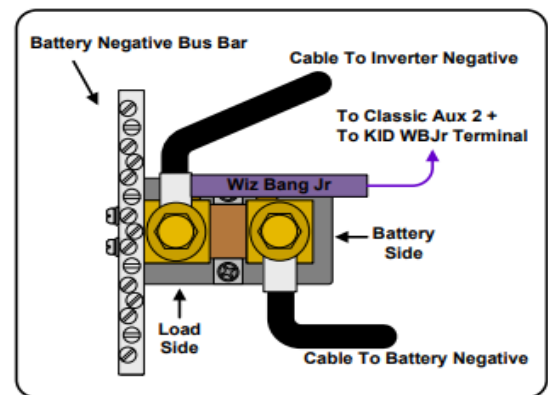

Figure 17
The WBJr is mounted on the side of a shunt. The shunt is wired in series on the electric low side, or negative side, of your system. See **Figure 17**. The wire marked “Cable to Inverter Negative” shows the shunt connection point for **ALL** negative wires from charge controllers, inverter, wind turbine negative, and even a battery charger running off a generator. All negatives land there. The other shunt bolt connection is the single cable from the shunt to the battery bank’s master negative terminal.
2. Referencing **Figure 17**: